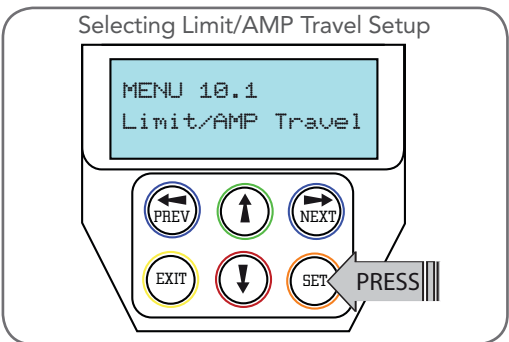

Fig 8.1
- c. Press SET again to start the limit setting procedure (**Fig. 8.1**).